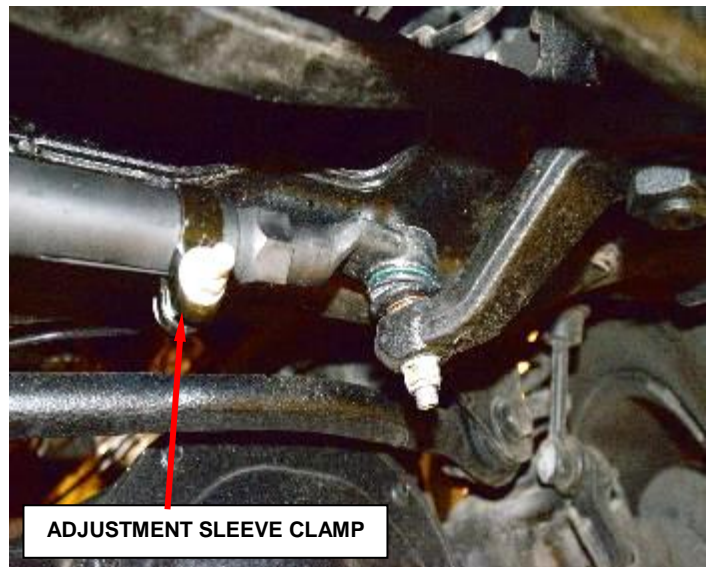

Figure 14 - Adjustment Sleeve Clamp
14. After adjustment tighten tie rod adjustment sleeve clamp bolt to the 75 N·m (55 ft. lbs.) (Figure 14).